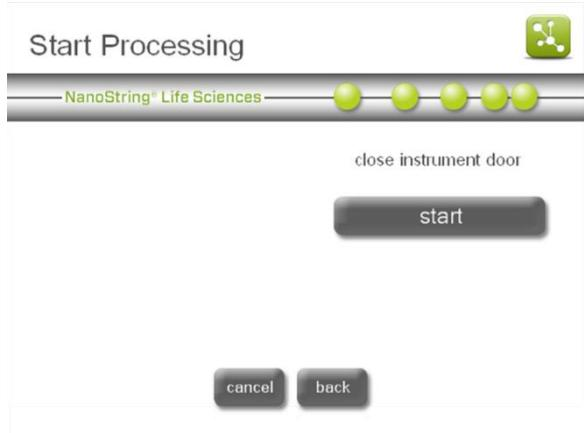

Figure 134: The ‘Start Processing’ screen.
6. The ‘Start Processing’ screen will appear (**Figure 134**). Press **start** to initiate the protocol. Refer to *Operating the Prep Station* for further instructions.